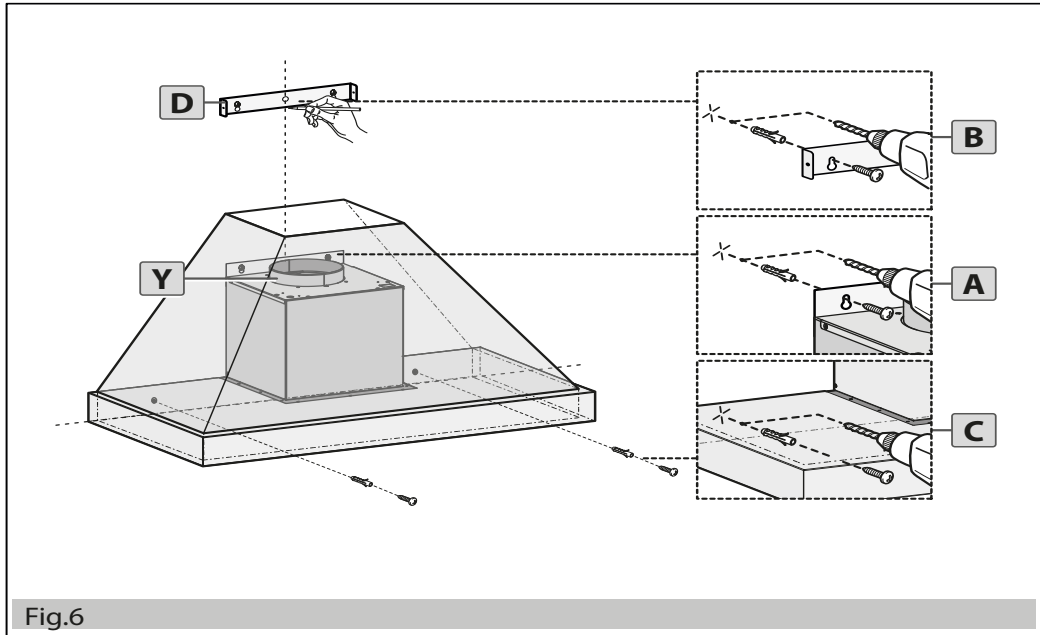

Fig.6
- 6) Hang the hood on the wall (A), and secure it with the screws (C) (see Figure 6).
- 7) Place the bracket (D) and secure it to the wall (B) (see Figure 6).